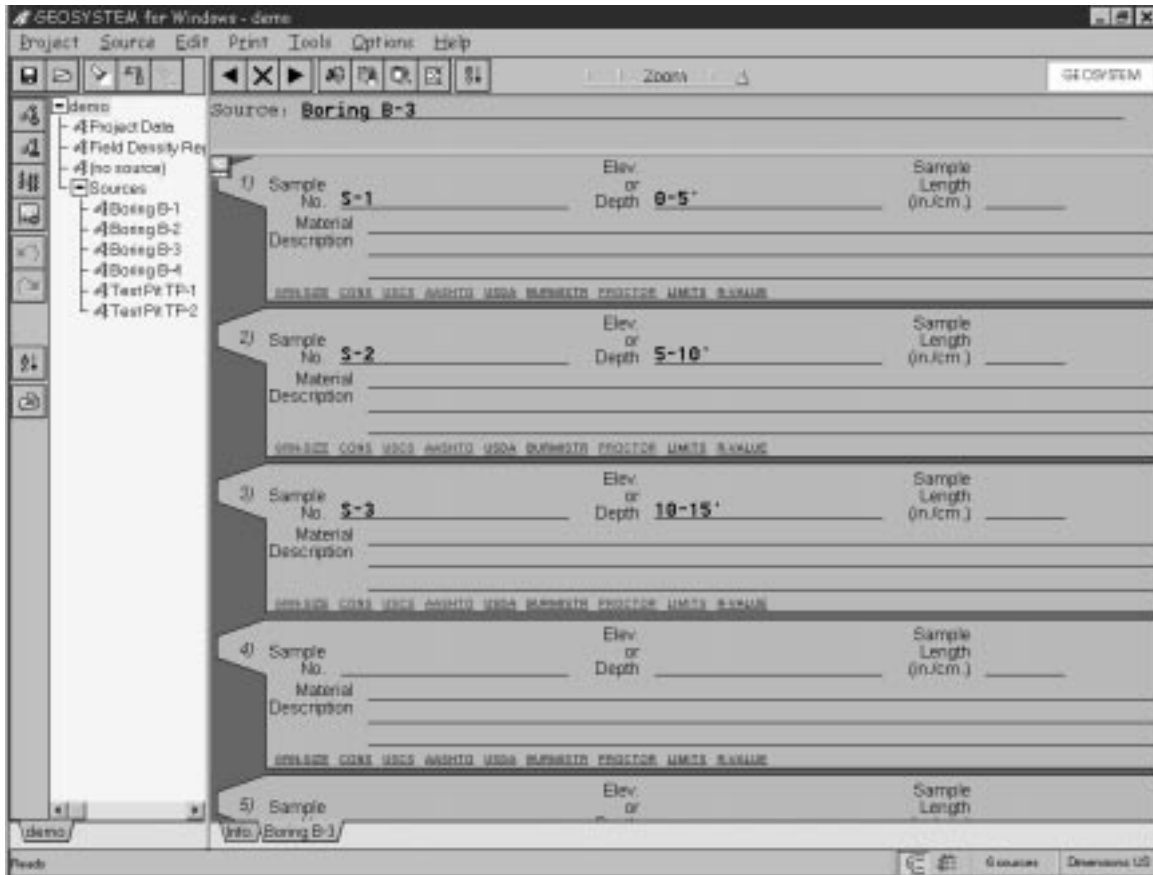

Figure 2.3.1 – Edit Screen
Before entering your testing data, you'll need to tell the software some basic identification information about the sample being tested. After you've opened the appropriate source folder for the sample you should see a display like the one shown in Figure 2.3.1: the right side of the display, where the numbered rows are shown, is where you'll be entering your sample data. The rows are called *sample cards* – find a blank card and enter your sample's identification information. The package supports the following identifying fields: **sample number**, **elevation or depth**, **sample length** and **material description**.
1. Click on the source's name in the list of sources entered into your project (this list is in the panel on the left side of screen -- see Figure 2.3.1).